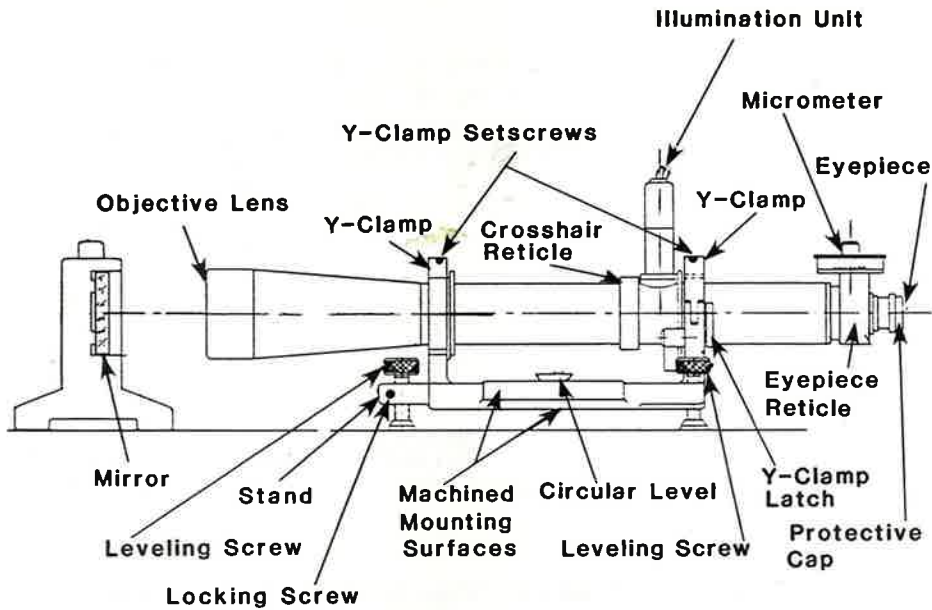

Figure 2. Auto-Collimator Setup
The 71 4210 K&E Visual Auto-Collimator is the basic unit for auto-collimation in the K&E product line. It can determine in fractions of seconds of arc the amount of deviation of the reflective surface about an axis perpendicular to the line of sight of the instrument. The collimator can be rotated through 90°, permitting measurements with the optical micrometer to be taken in either horizontal or vertical direction. Working range is not limited, because the measurement of deflection is independent of the distance between the auto-collimator and the reflective surface. A typical setup is shown in Figure 2.
1. Set up the auto-collimator on a surface plate or on its flat, machined base, and align it to a mirror, as shown in Figure 2 above.